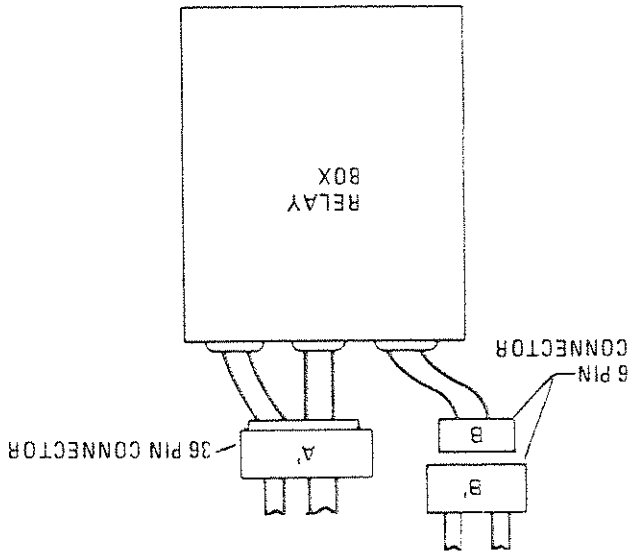

Figure 5-3. Models 5000 and 5001
2. Disconnect B and B'. See figures 5-3, and 5-4. Leave all other connectors connected.